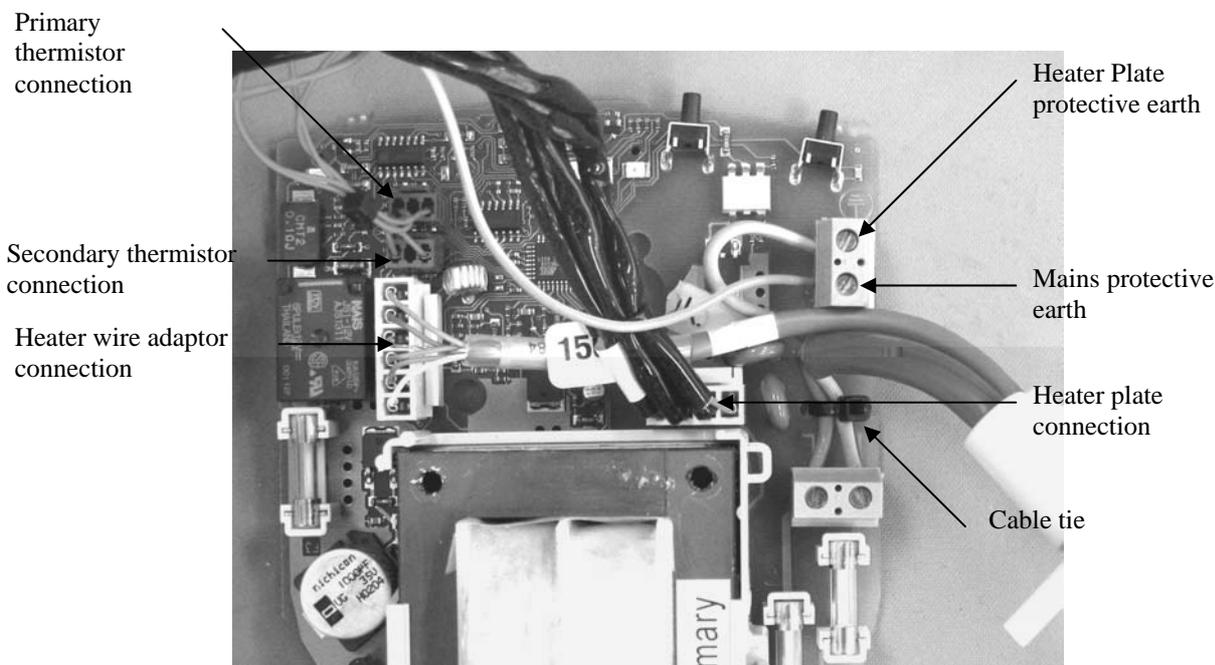

Figure 6.4: Harness and power cable connections
2. Cut the cable tie holding the phase and neutral conductors to the PCB (refer to Figure 6.4).
5. Detach the heater-wire adaptor connector, the heater plate connector and the two heater plate thermistor connectors (refer to Figure 6.4).
2. Unscrew the heater plate protective earth wire from the PCB, disconnect the heater plate and the heater plate thermistor harnesses, separate the case top from the PCB. (Refer to Figure 6.4 for connector locations).